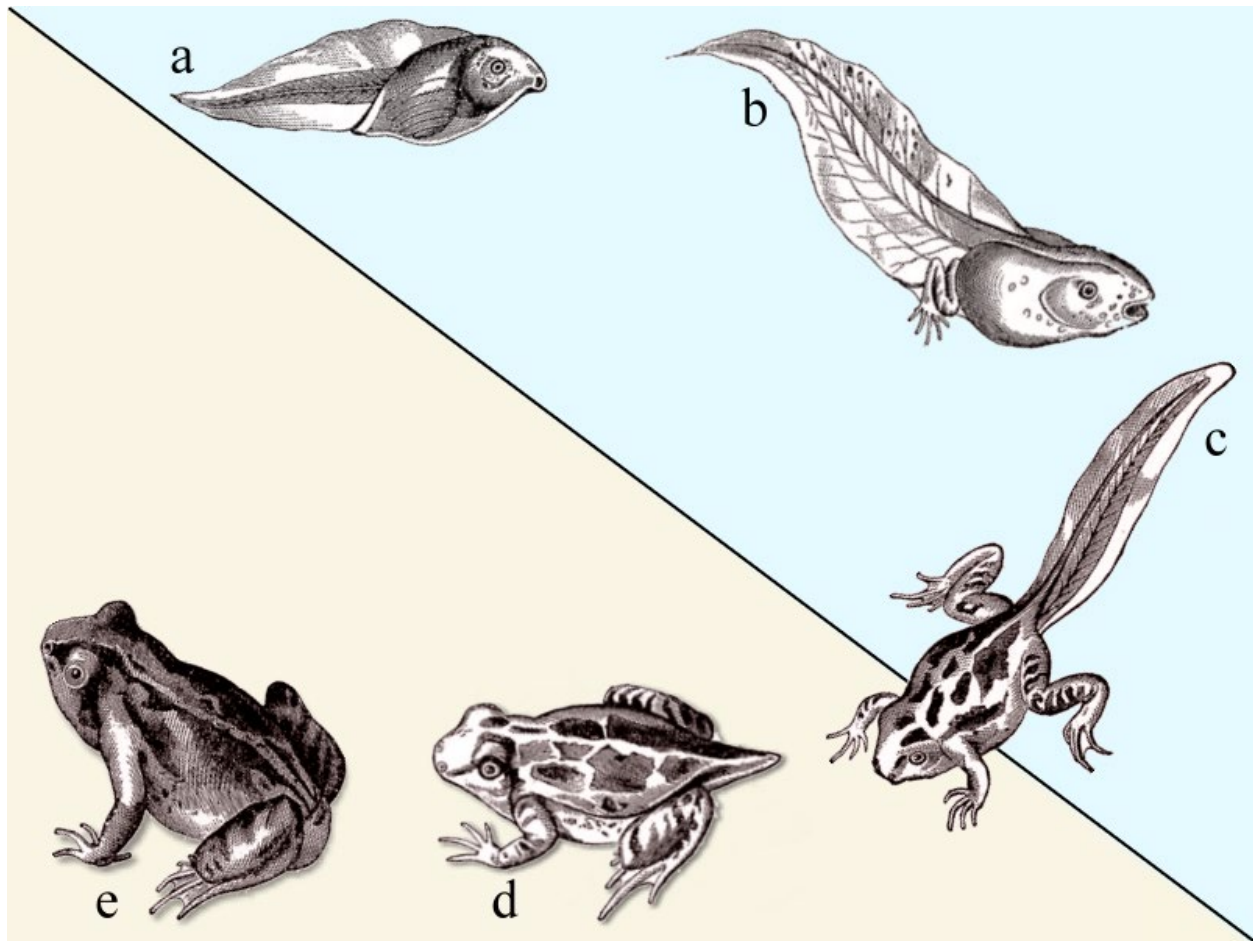

Figure 2. Metamorphosis of a frog.
- See **Figure 2** illustrating the metamorphosis process of a frog to help readers understand the natural lifecycle process.
Figure 2 Description: The externally viewable stadia of the metamorphosis of an anuran amphibian (superfamily Pelobatoidea): a) Tadpole without limbs, b) with one pair of limbs, c) with two pairs of limbs and still with tail, d) young frog with, e) without rest of tail. Source: Image from Wikimedia Commons.